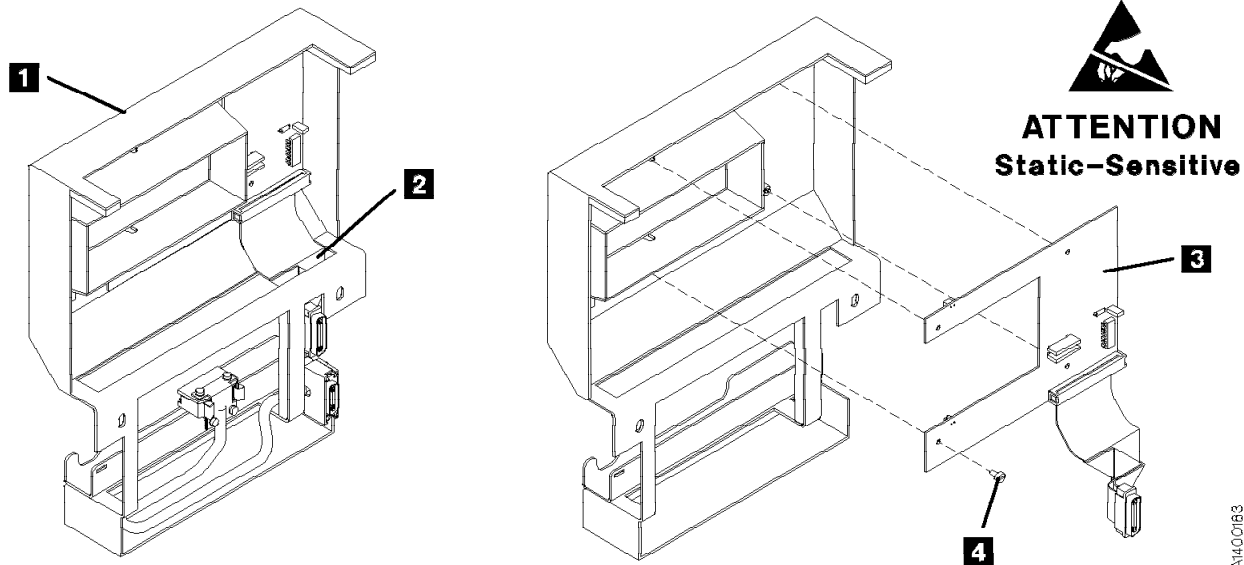

Figure 357. Gripper Present Sensor Card (Model B1A/E1A Only)
2. See Figure 357. Remove the library interface cover **1**. See “Library Interface Cover” on page PROC-28, then return here.